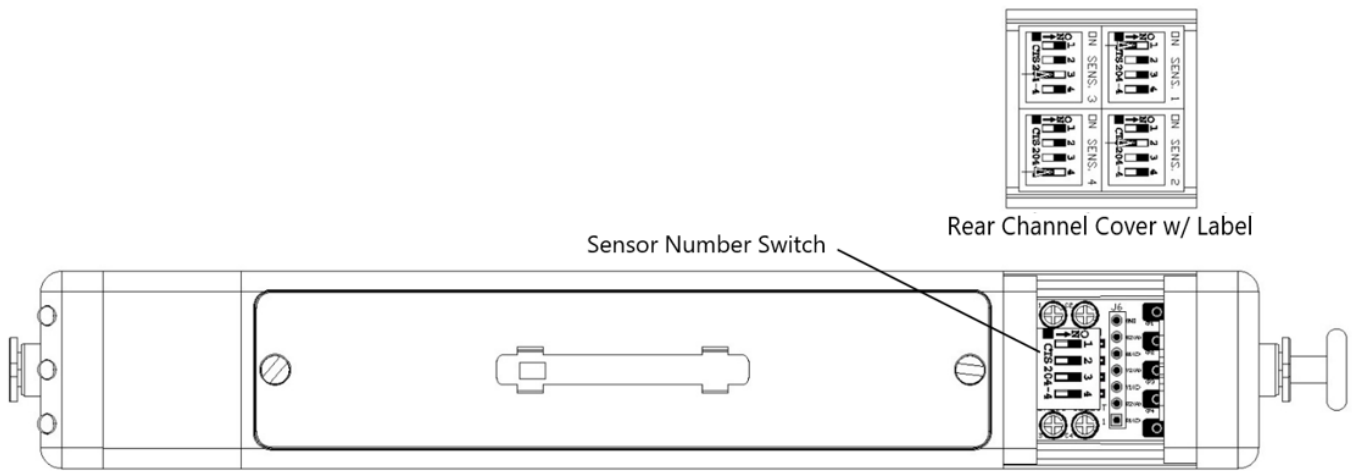

Figure 1: Sensor Number Switch Location
3. Locate the Sensor Number dip switch (switch pack) on the IQ Easy Modular Sensor. (See Figure 1)
3. Locate the Sensor Number dipswitch on each of the IQ Easy Modular Sensors. (See Figure 1)